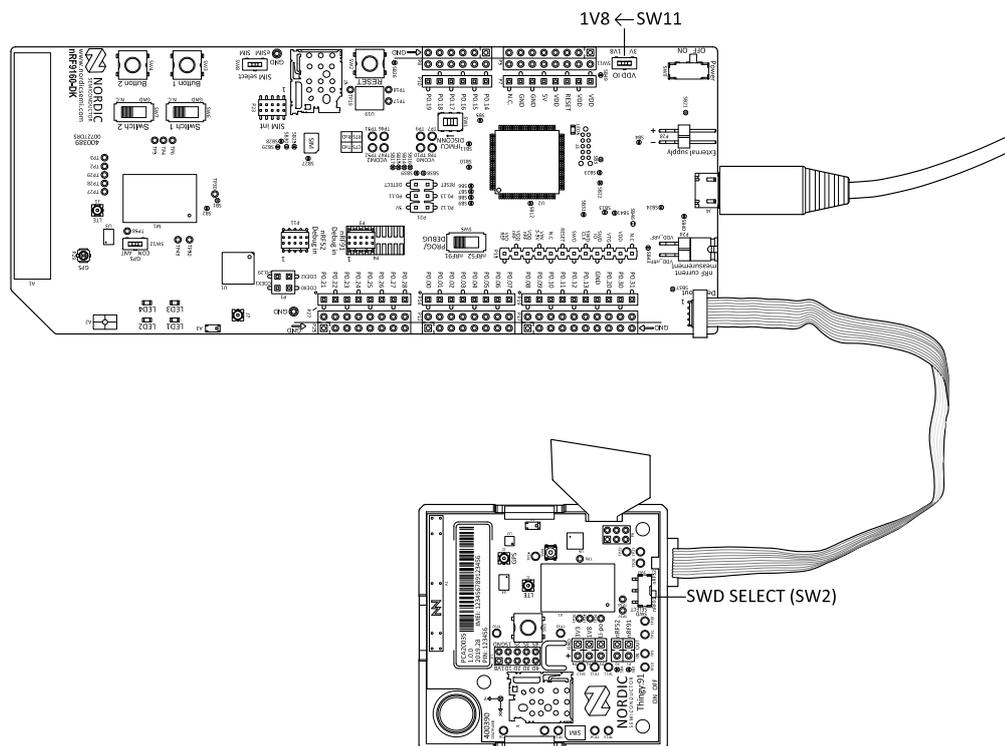

Figure 7: Connecting Nordic Thingy:91 to the external debug probe
- Connect the Nordic Thingy:91 to the debug out port on a 10-pin external debug probe, for example, nRF9160 *DK*, using a 10-pin JTAG cable. Refer Figure 7: Connecting Nordic Thingy:91 to the external debug probe on page 15.
2. Connect the Nordic Thingy:91 to the debug out port on a 10-pin external debug probe, for example, nRF9160 *DK*. Refer Figure 7: Connecting Nordic Thingy:91 to the external debug probe on page 15.